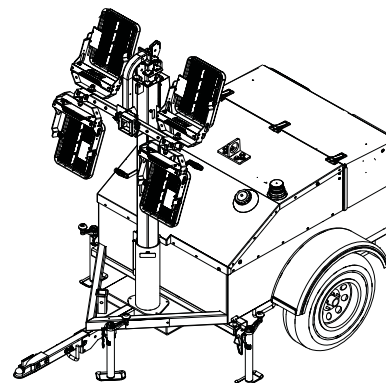

Figure 3-9. Stowed (Travel) Position
- See Figure 3-9. If the unit is going to be moved, rotate the mast so the lights face the rear of the unit.